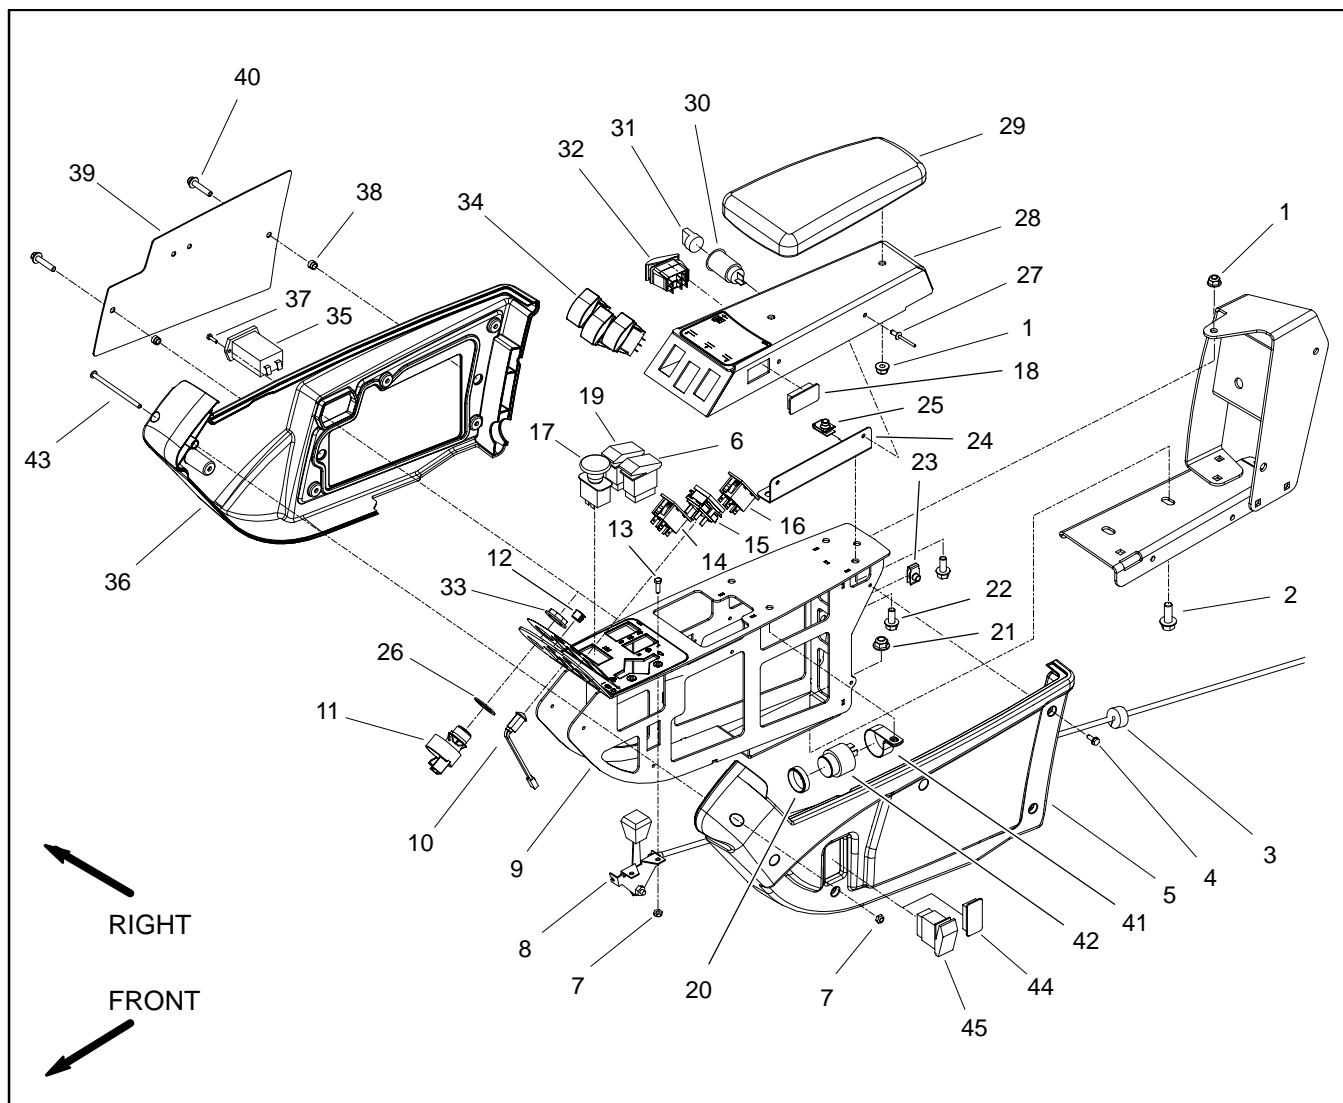

Figure 13
### Disassembly (Fig. 13)
2. Remove two (2) flange head screws (item 40) and then cover plate (item 39) from outside of console arm. Locate and retrieve two (2) spacers (item 38).
3. At front of console arm, remove screw (item 43) and lock nut (item 7) that secure console arm covers to each other.
4. Remove five (5) washer head screws (item 4) that secure each cover to console arm panel.
5. Remove console arm covers from machine. As LH cover (item 5) is removed from console arm, unplug wire harness connector from headlight switch if equipped.
6. Remove electrical components from console arm as needed using Figure 13 as a guide.
7. If necessary, remove console panel and supports from machine using Figures 13 and 14 as guides.
### Assembly (Fig. 13)
1. Install all removed electrical and console arm components using Figure 13 and 14 as guides.
2. Position covers to console arm. As LH cover (item 5) is placed, plug wire harness connector to headlight switch if equipped.
3. Secure each cover to console arm with five (5) washer head screws (item 4). Install screw (item 43) and lock nut (item 7) to secure covers at front of console arm.
4. Position cover plate and spacers to outside of console arm. Secure with two (2) flange head screws.